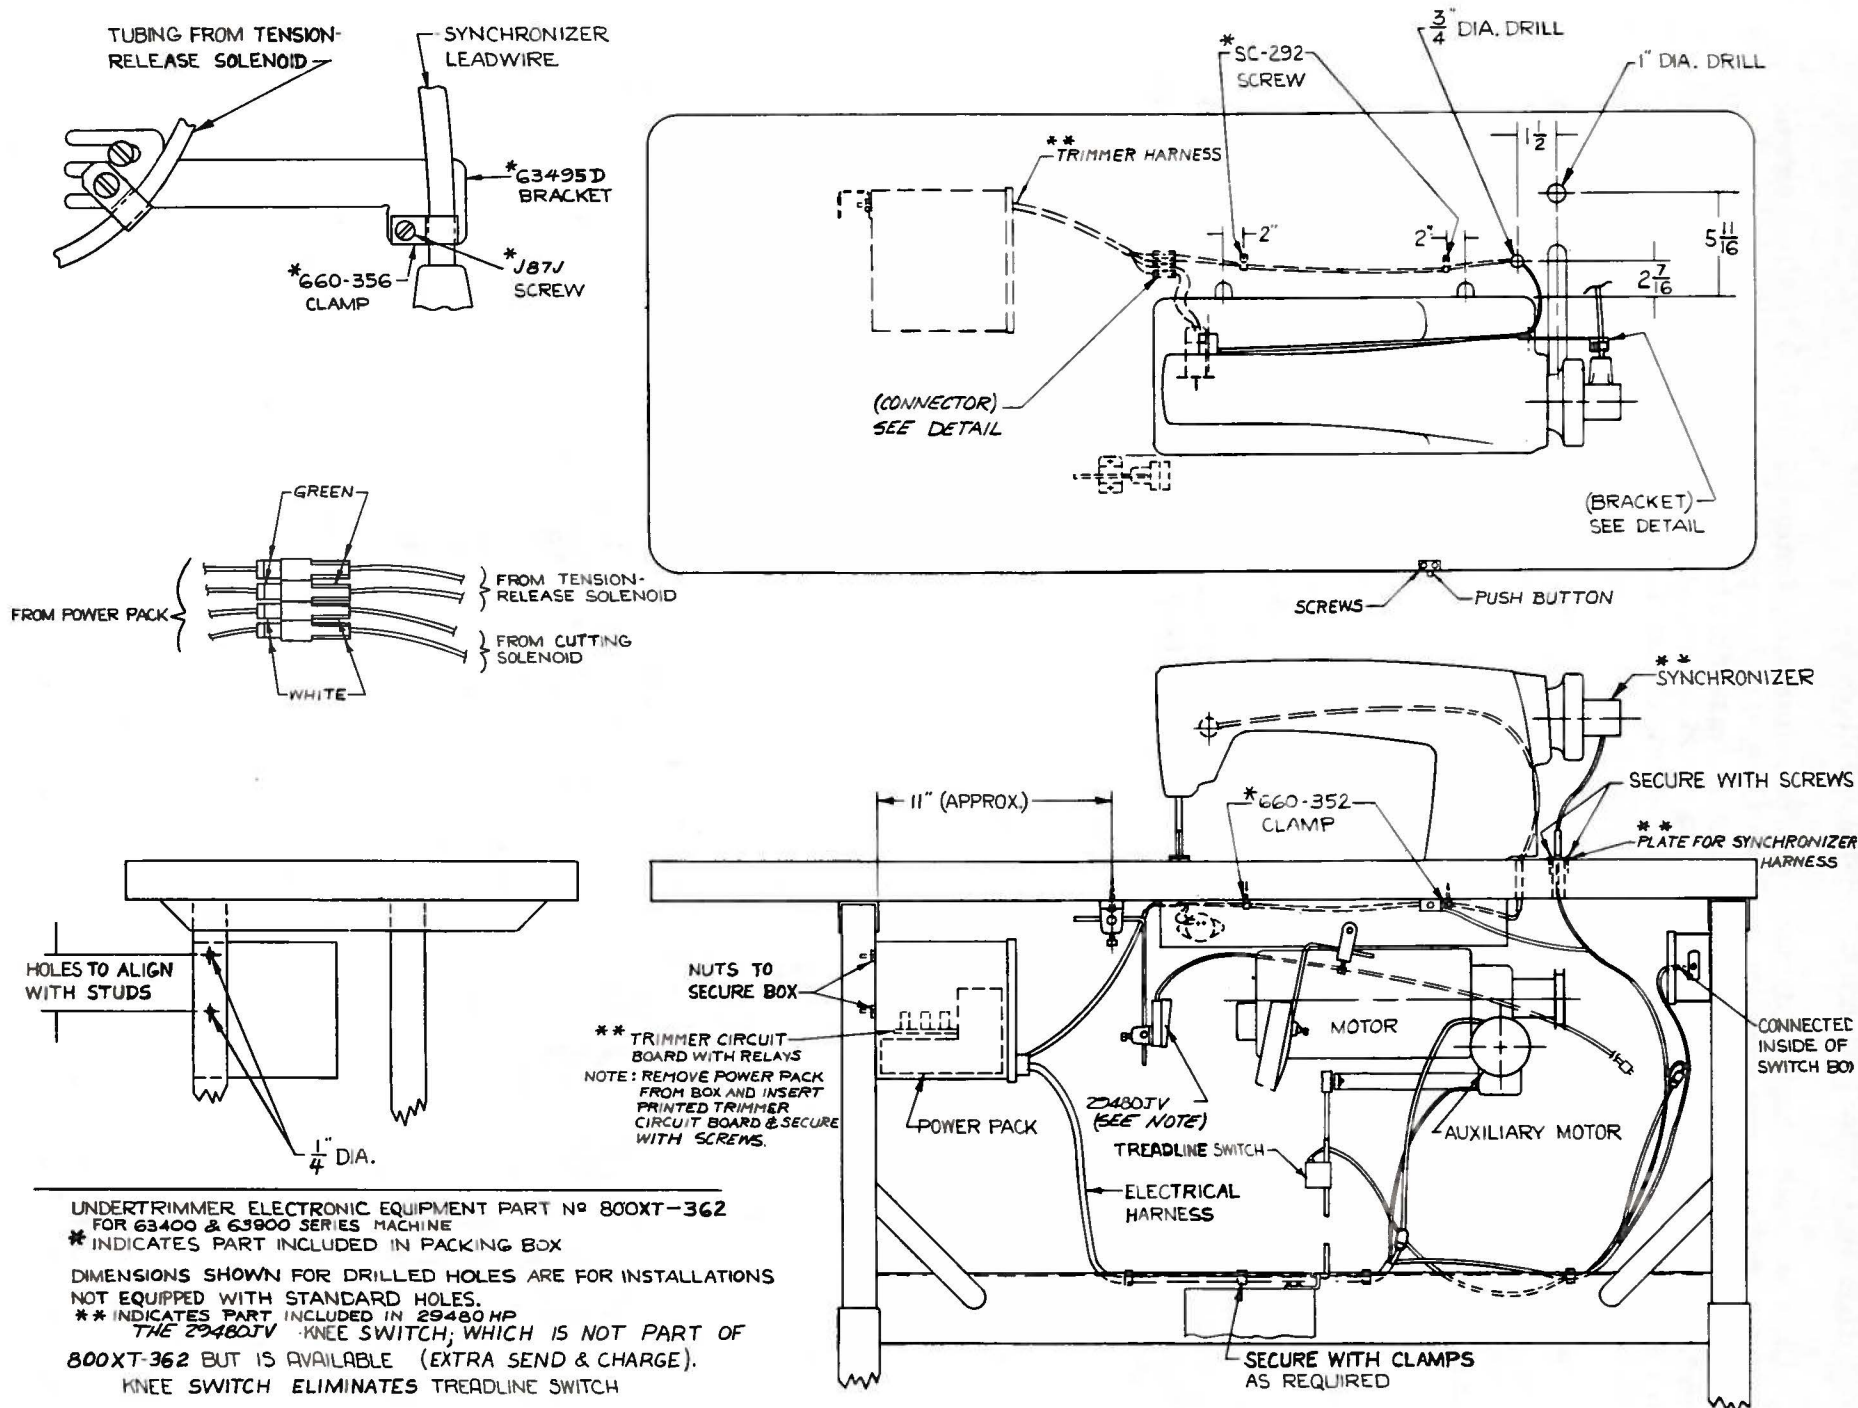

Fig. 1A
For Styles 63400 KX and KY, use Fig. 1A as a guide to complete the following (4) steps:
Once again using Fig. 1A as a guide proceed as follows: